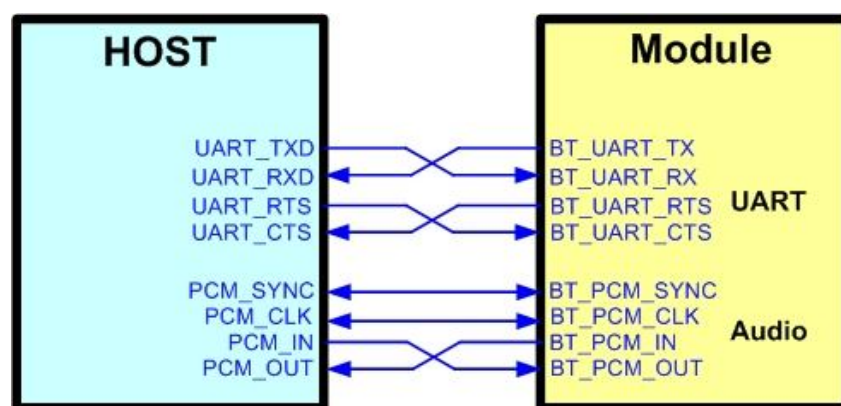

Figure5. Bluetooth verification connection interface to Host UART
- ❖ Refer to Figure5 UART pin definition connects the J16 interface of AP12275\_M2 evaluation board to Host UART control interface.